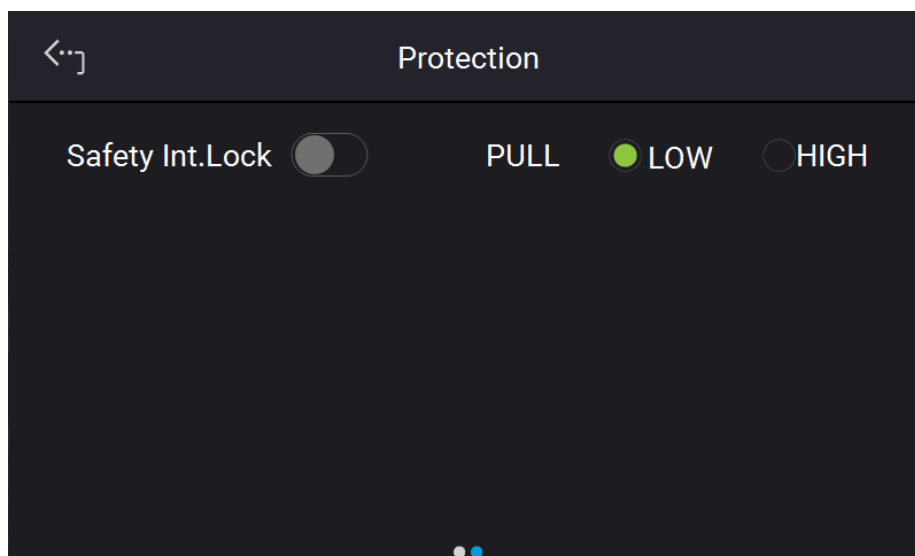

Figure 3-31
1. Use the touch button to set Safety Int. Lock mode to disable or enable as Figure 3-31 shows.